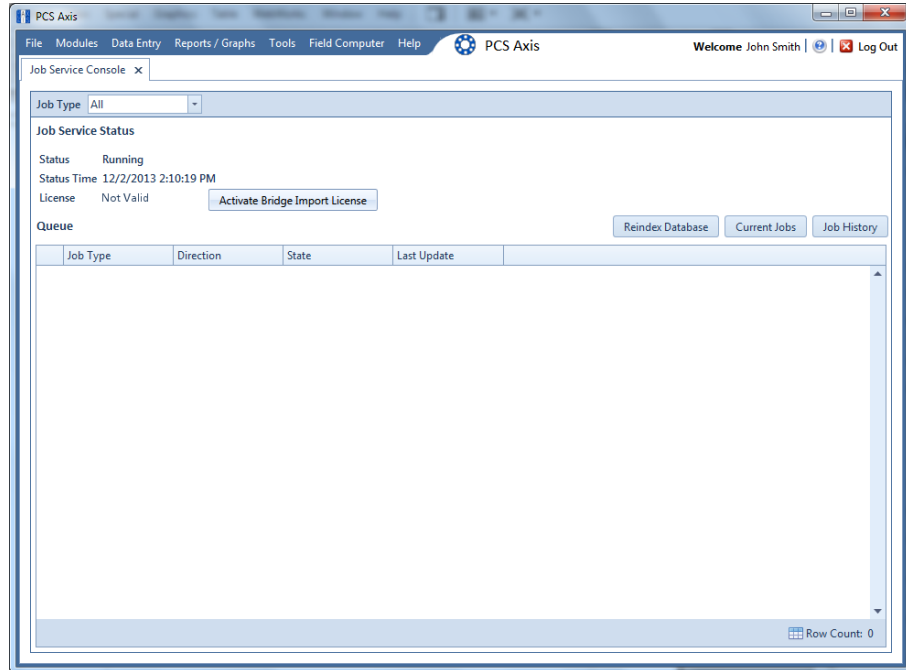

Figure 2-2. Job Service Console
- 2 Click **Tools** > **Job Service Viewer** to open the *Job Service Console* window (Figure 2-2, page 18)